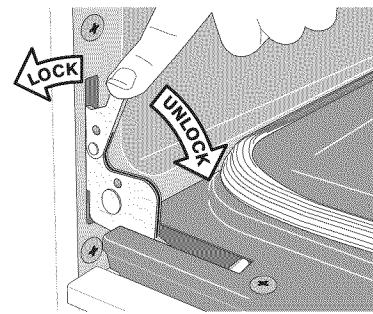

Figure 38: Door hinge locks
2. Pull the door hinge locks on both left and right door hinges down from the oven frame completely towards the oven door (See Figure 38). A tool such as a small flat-blade screwdriver may be required.
4. Push the door hinge locks up towards and into the oven frame on both left and right oven door hinges to the locked position (See Figure 38).